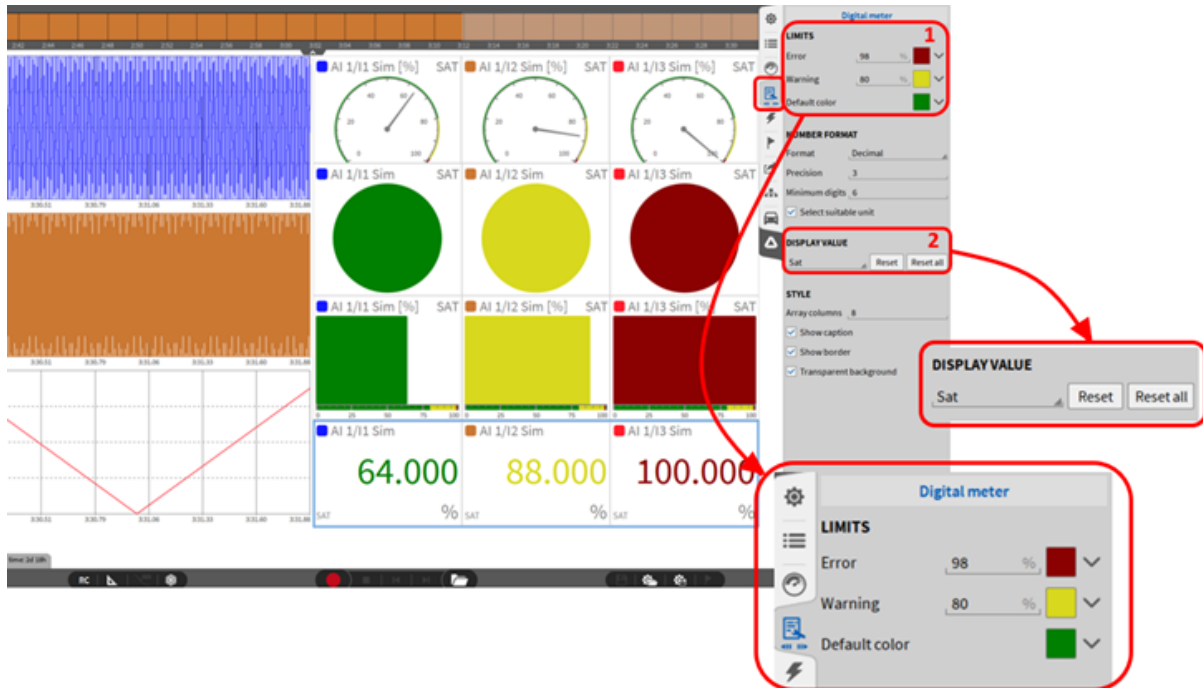

Fig. 8.115: Saturation visualization of channels
After adding one of the previously listed instruments to the measurement screen, the “Sat” (saturation) mode must be selected as the display value in the settings of the respective instrument. (see ② in Fig. 8.115 ). By pressing the “Reset” button, the selected instrument will be reset, by pressing “Reset all”, all saturation displays will be automatically reset (instruments other than the selected instrument too). After selecting the display value “Sat”, the colors as well as the limit values for the display can be changed if required (see ① in Fig. 8.115).